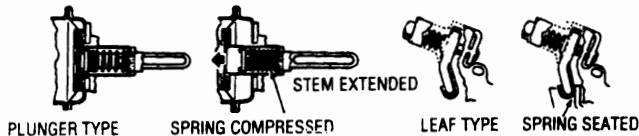

**FIG. 3
2. Fully seat vacuum break plunger using an outside vacuum source. Plug air bleed hole where applicable (see Fig. 3).
3. Be sure air valve link does not restrict full travel of plunger. If necessary, support link at point 'A' and bend as shown. Refer to Fig. 14 for final adjustment of link. Where applicable, plunger stem must be extended fully to compress bucking spring (see Fig. 3).
2. Fully seat vacuum break plunger using an outside vacuum source. Plug air bleed hole where applicable (see Fig. 3). Where applicable, plunger stem must be extended fully to compress bucking spring (see Fig. 3).